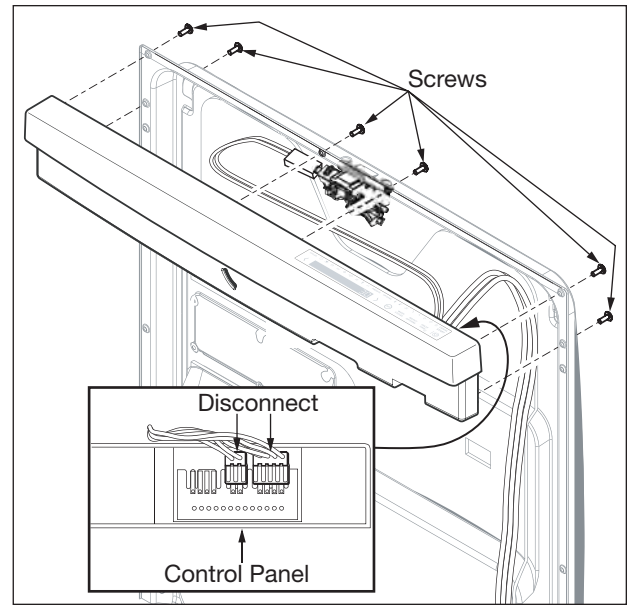

Figure 5-4. Control Panel Assembly Removal
2. Extract the two #20 Torx screws from the inside of the inner door assembly securing the control panel assembly to the door. (See Figure 5-4) Hold on to the control panel assembly as the screws are removed so the wire harness connections are not strained.